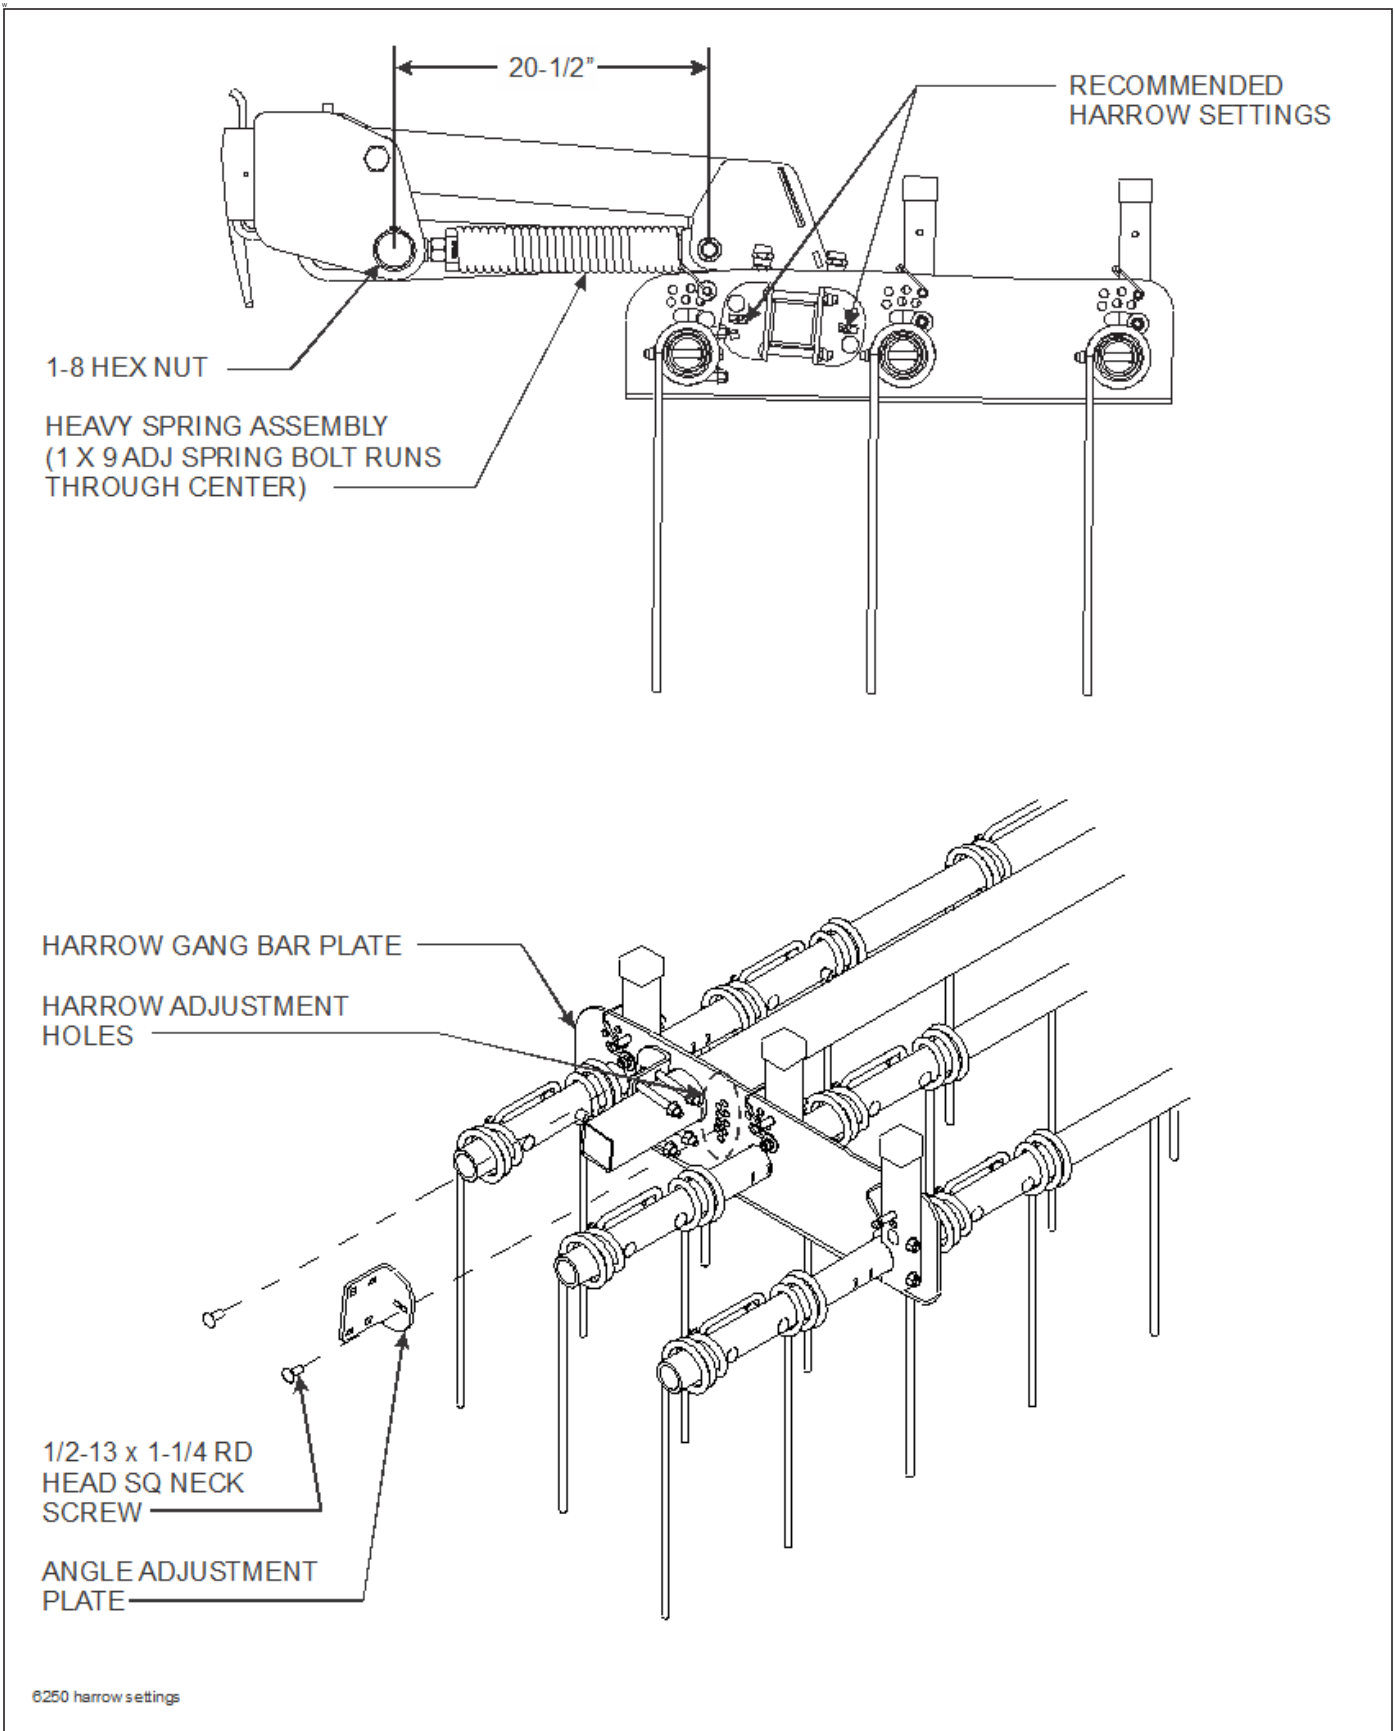

Figure 4-17: Harrow Adjustment and Settings
1. Adjust the harrow gang bar plate (p/n 154993) angle by removing 1/2-13 x 1-1/4 round head square neck screws as shown in **Figure 4-17**. Rotate the harrow section to the desired level position and reinstall the bolts in the appropriate mounting holes to hold the harrow section level.
2. Entire harrow sections may be leveled for height and side-to-side. Sections heights may be leveled for all sections across the back of the implement, or individually for side-to-side levelness. To adjust the section heights, see **Figure 4-17**. Loosen the locking nuts on the 1 x 9 spring bolt, and then rotate the bolt head to raise or lower the section. Retighten the bolts when finished.